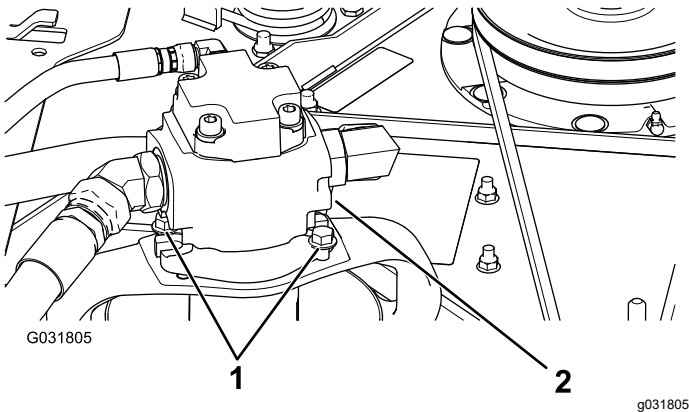

Figure 127
5. Remove the bolts securing the hydraulic motor to the cutting unit (Figure 127).
3. Remove the bolts securing the hydraulic motor to the cutting unit (Figure 127).